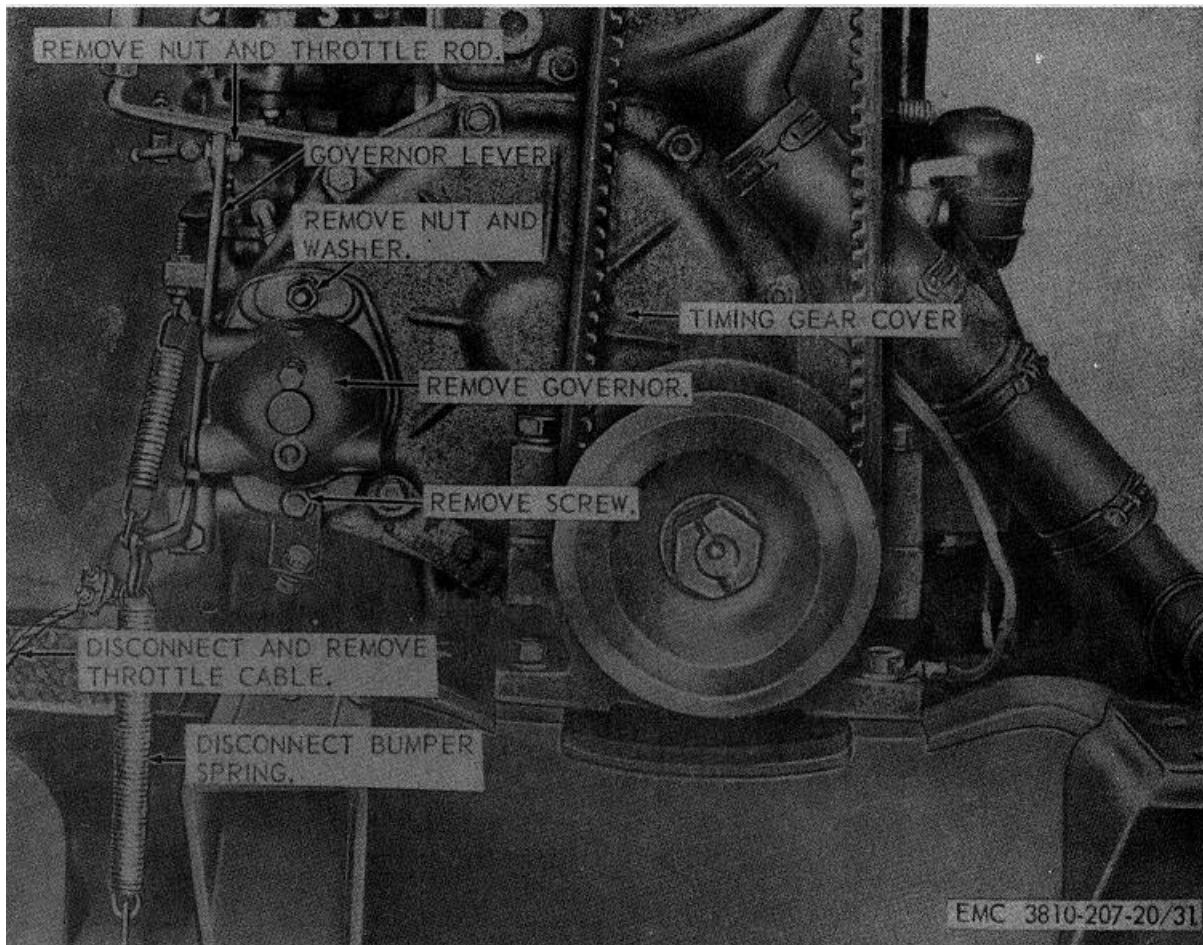

Figure 31. Crane engine governor assembly, removal and installation.
a. *Removal.* Remove the crane engine governor assembly as instructed on figure 31.
- (1) Clean the governor assembly with an approved cleaning solvent and dry thoroughly.
- (2) Inspect the governor assembly for cracks, breaks, proper operation, and other damage. Replace defective governor assembly.
c. *Installation.* Install the governor assembly as illustrated on figure 31.